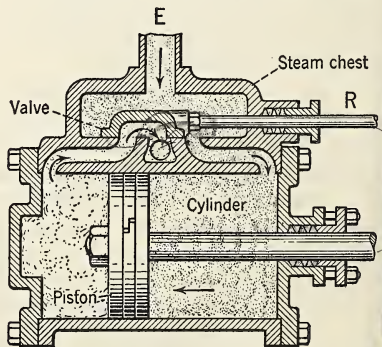
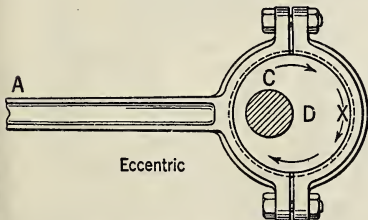

FIG. 372. Steam-engine cylinder and steam chest with slide valve.
FIG. 374. An eccentric is used to control a slide valve.
333. How does the steam engine work? From the boiler the steam is led to the steam chest through the pipe *E*, Fig. 372. When the slide valve is in the position shown in the figure, the steam passes from the steam chest into the right end of the cylinder. Here it expands and pushes the piston with great force toward the left end of the cylinder. The spent steam from the previous stroke passes from the left end of the cylinder and out through the exhaust pipe. The path of the expanding steam is shown by the arrows.
1. *Slide valves*. It is important to remember that the slide valve must open and close the pipes leading from the steam chest to the different ends of the cylinder at exactly the right time. They make connections, too, between the ends of the cylinder and the exhaust pipe. The rod *R* of Fig. 372 is connected by means of shaft *A*, Fig. 374, to an eccentric controlled by the crankshaft upon which the flywheel turns. The shaft, *A*, ends in a collar which fits around the disc, *D*. This disc rotates about the center, *C*, an axis which is off center (eccentric). During one half a revolution, the point *X* moves along the curve as indicated by the arrows, and the end, *A*, of the